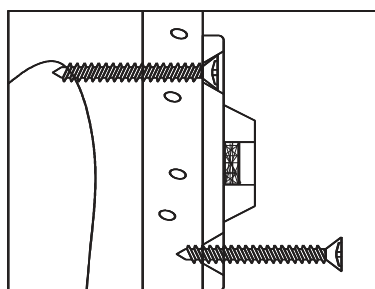
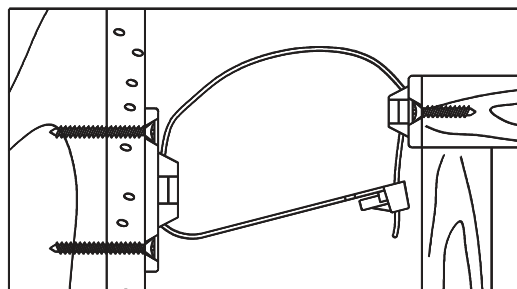

Figure 2
Figure 3
- 3) **MOUNTING THE WALL-SIDE BRACKET:** Position the wall-side bracket along the selected stud mark so that it will be adjacent the furniture-side bracket when the furniture item is moved to its final position. The wall-side bracket should be about ONE inch lower than the furniture-side bracket (See Figure 3). Use the TWO long screws to secure the wall-side bracket to the wall. Remember to position the wall-side bracket vertically so that both screws will engage the selected wall stud (See Figure 2).